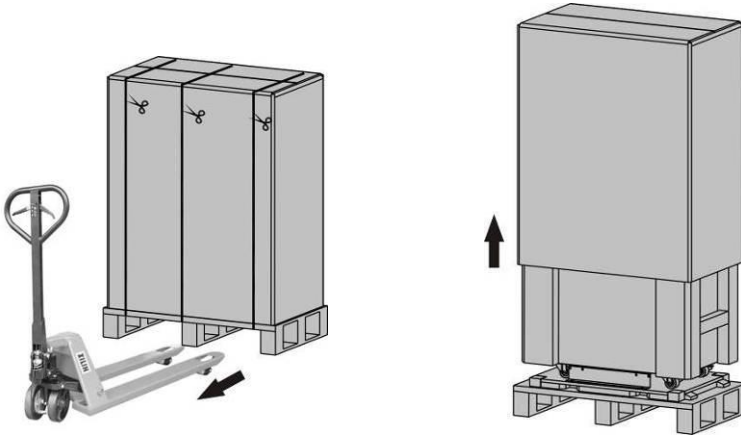

Figure 2: Outer packaging
6. Transport the packaged UPS system to the installation site using a hand lift truck or forklift (see Figure 2 left).
7. Remove the outer carton (see Figure 2 right).